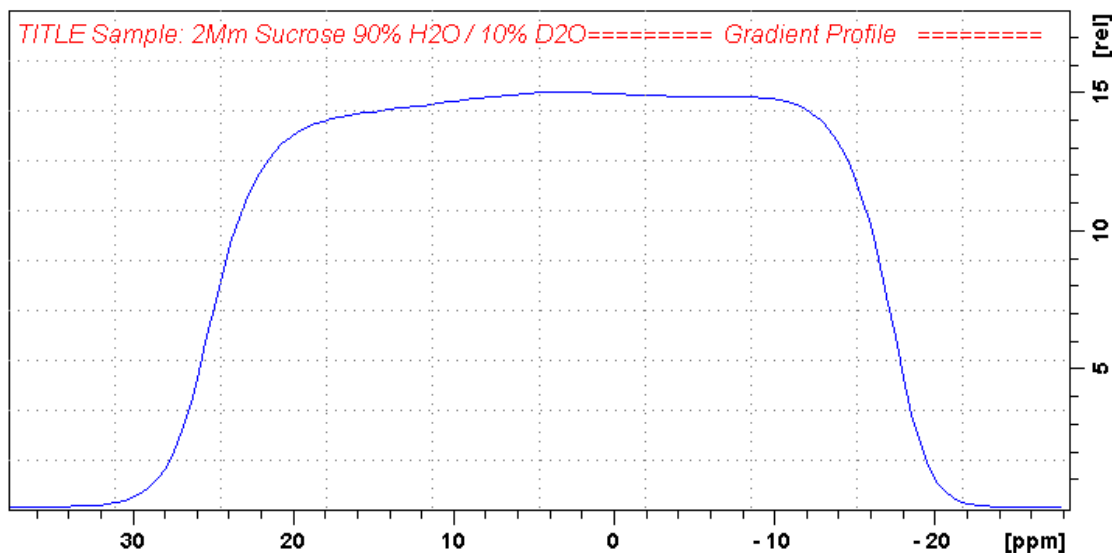

Figure 4.6: An Example of a Good Gradient Profile
- Observe the spectrum, it should be smooth (see [Figure 4.6 \[▶ 34\]](#)).
- Observe the spectrum, it should be smooth (see [Figure 4.6 \[p 34\]](#)).